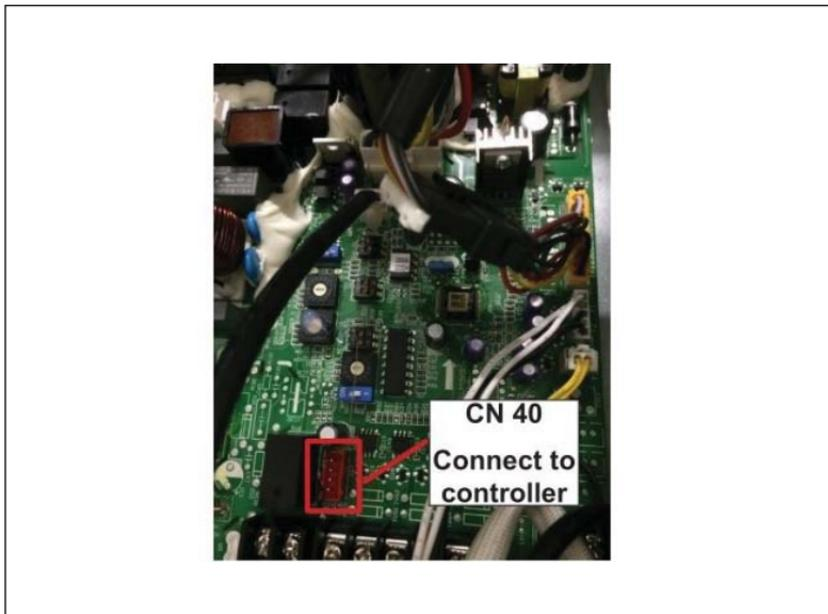

Figure 30 Location of CN40 Port for Ducted Units
3. Connect the red end of the connection cable E (see Figure 30 above) to CN40 on the Main Board.